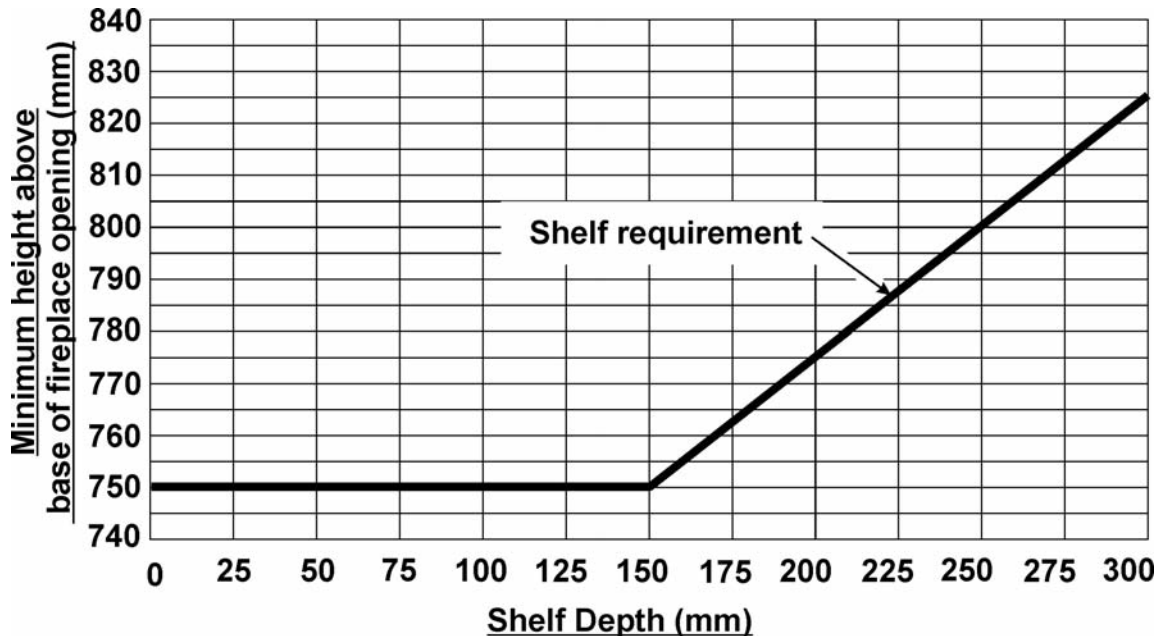

Figure 2. Combustible shelf clearances
- For a shelf deeper than 150mm: 750mm + 12.5mm for every 25mm depth over 150mm (See figure 2).